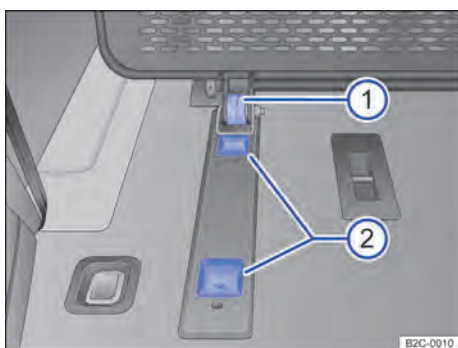

Fig. 135 In the load compartment: Lower anchor point.
2. Push the bottom of the partition grille with the roller → Fig. 135 ① into the rear recess in the anchor point ②.
2. Push the bottom of the partition grille with the roller → Fig. 135 ① into the front recess of the anchor point → Fig. 135 ②.